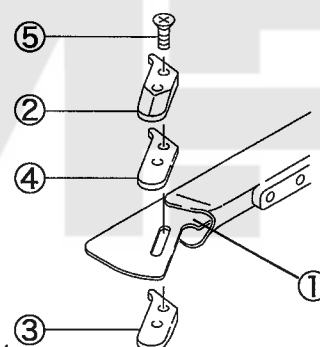

Fig. 24
- Remove the uncurling tip spacer④, when changing thickness of the uncurling tips. (Fig. 24)
- When sewing some kinds of material, it is better to remove the uncurling tips②③④.